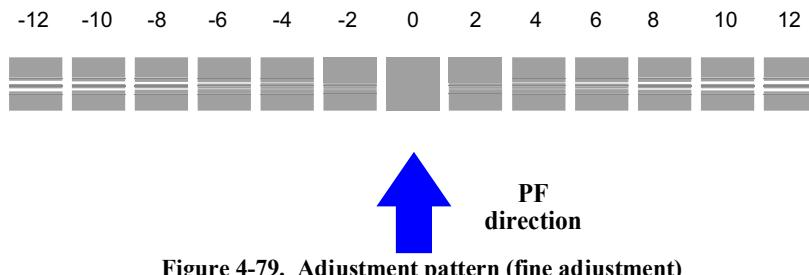

Figure 4-79. Adjustment pattern (fine adjustment)
10. Refer to Figure 4-79, and select the pattern that the white gap is the narrowest.